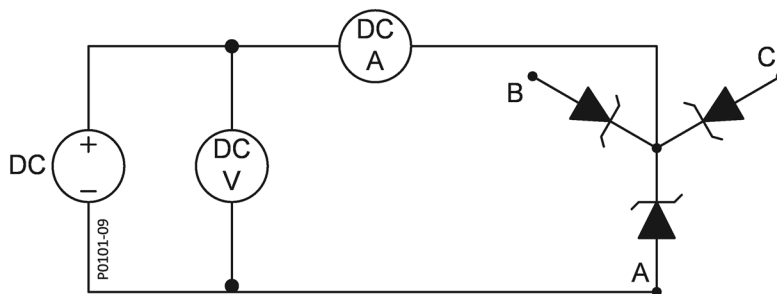

Figure 6-6. Test Connections, AC Three-Phase Wye Suppressor
- AC three-phase wye suppressor: Figure 6-6